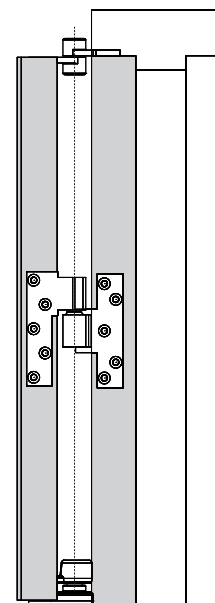

Figure 3
3. Mortise door and frame. (Figure 3) Refer to template IP50050.
4. Using pivot leaf as a template mark and prepare mounting holes on door and frame. (Figure 3)
5. Install jamb portion of pivot in frame using five (5) 1/4-20 x 5/8" FHMS or #14 x 1-1/2" FHWS screws provided.
6. Install door portion of pivot in door using five (5) 1/4-20 x 5/8" FHMS or #14 x 1-1/2" FHWS screws provided.